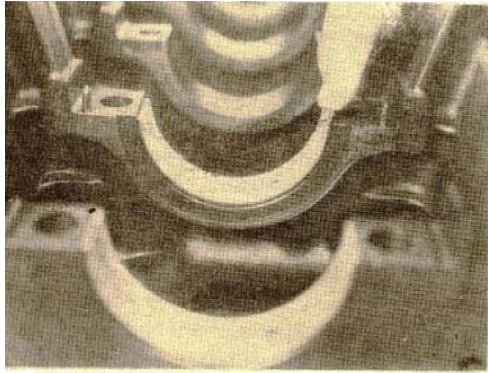

Fig. 14-2, Install the upper main bearing shells
2. Put the upper main bearing shells in the block. Hold in position with a tang. The ends of the bearing shells must be flush with the parting face of the block. Fig. 14-2.